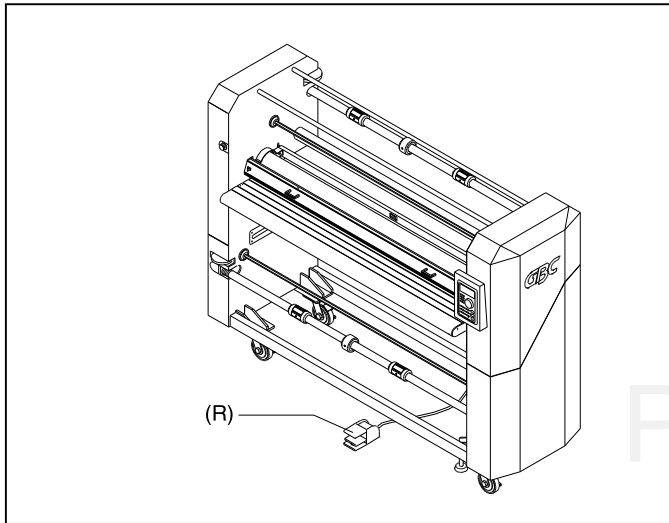

Fig. 16
**R. FOOTSWITCH:** (Figure 16)